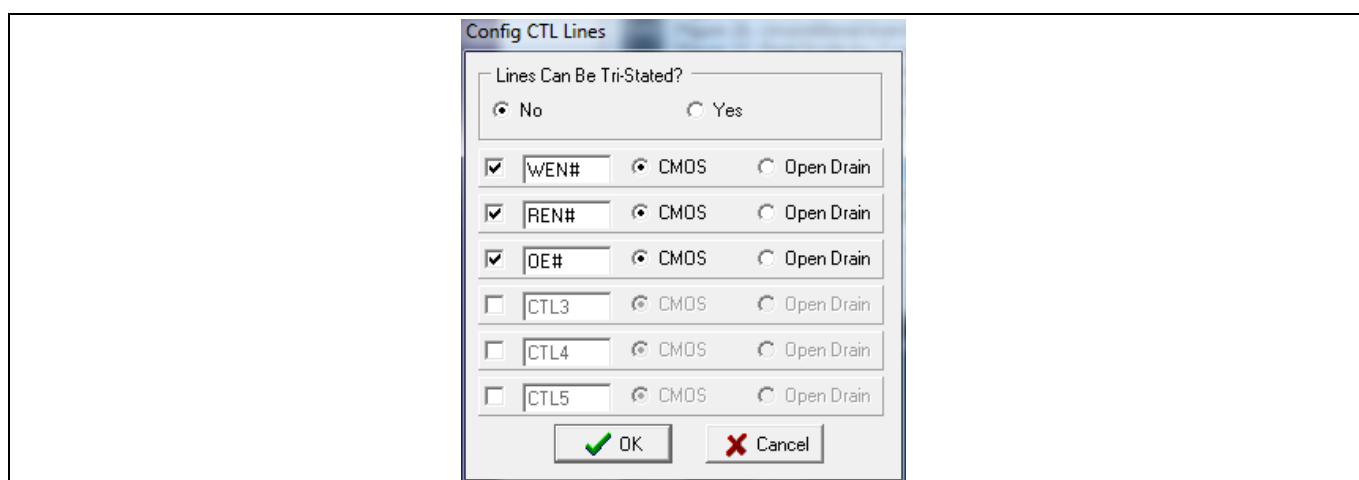

Figure 34 CTL Pin Configuration
7. Right-click the CTL label and configure it, as shown in Figure 34.